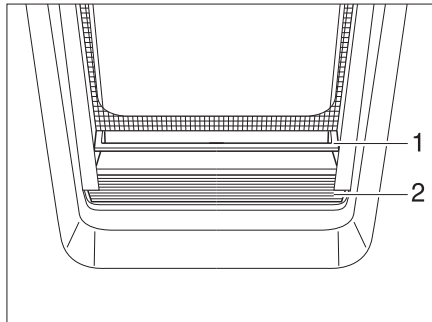

Fig. 29 Roman shade
*Closing:* ■ Grip the Roman shade (Fig. 29,2) in the middle of the holding bar (Fig. 29,1), pull it upwards and then release it at the desired height. The Roman shade will stay at this height.